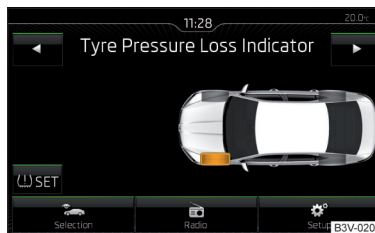

Fig. 206
- ▶ Tap the function SET surface » Fig. 206.
When a warning light  in the instrument cluster appears, the affected tyre can be displayed on the infotainment » Fig. 206.